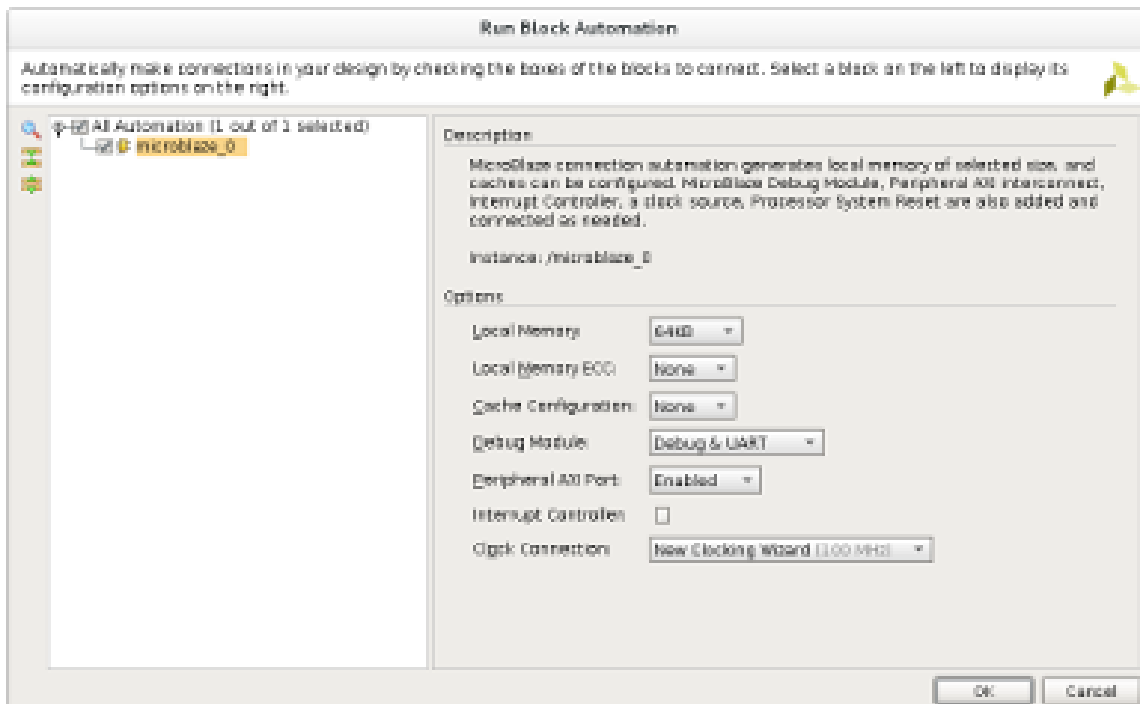

Figure 3: Run Block Automation
- The Block Design Diagram opened (tab called Diagram) is empty. Right click within the diagram tab and select 'Add IP'. Search 'MicroBlaze' and double click on 'MicroBlaze' to add it to our design. Right click and select 'Run Block Automation'. Select the following configuration for the MicroBlaze processor and click 'OK'. (Figure 3)